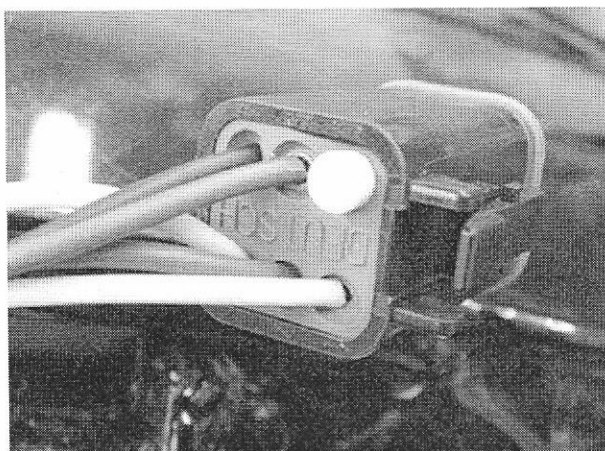

Figure 7—Finished Coil Harness Connector
5. Remove the stock coil cover, coil (including the stock coil harness and 4-socket connector—see Figure 7), and spark plug wires.